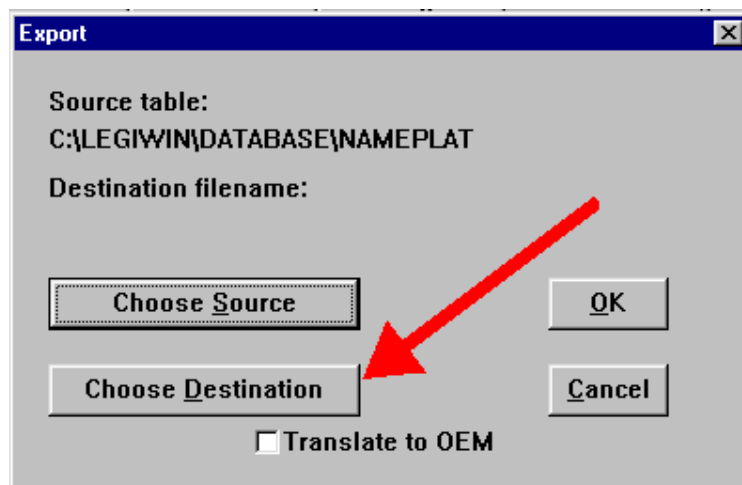

Figure 5-5
5.2.9. Click [**Choose Destination**]. (Figure 5-5)